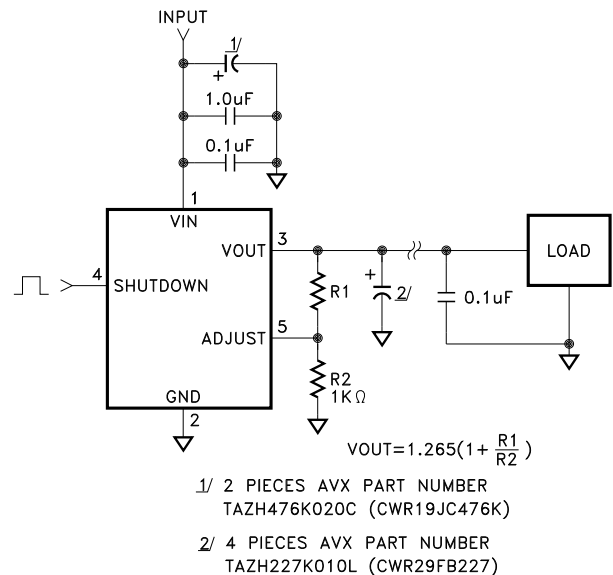

FIGURE 2
- ① Unless otherwise specified, VIN = 5.0V, R1 = 1.62K, V_{SHUTDOWN} = 0V and I_{OUT} = 10mA. See Figure 2, typical application circuits.
- ② Guaranteed by design but not tested. Typical parameters are representative of actual device performance but are for reference only.
- ③ Industrial grade devices shall be tested to subgroups 1 and 4 unless otherwise requested.
- ④ Military grade devices ("H" suffix) shall be 100% tested to subgroups 1,2,3 and 4.
- ⑤ Subgroup 5 and 6 testing available upon request.
- ⑥ Subgroup 1,4 T_C = +25°C